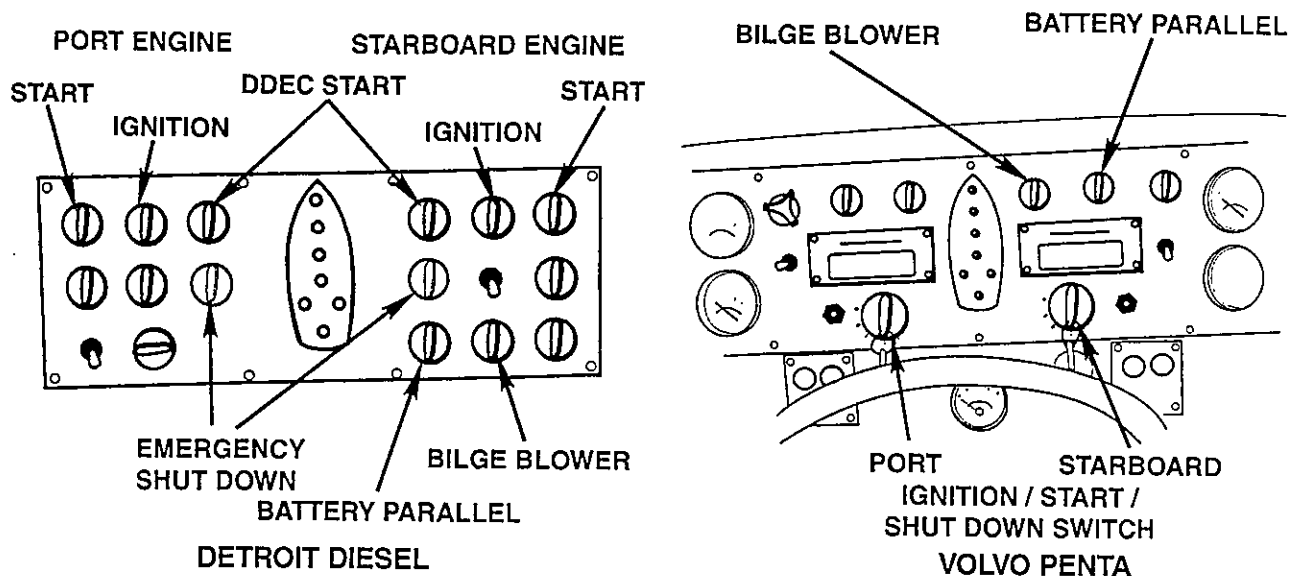

Figure 3-14 Bridge Switch Panel
3. See Figure 3-14. During engine starting, use the BAT PARALLEL switch if necessary. Set BAT PARALLEL switch to either "PORT" or "STBD" while turning START switch. Release both switches when engine starts.
2. See Figure 3-14. On Detroit Diesel engine, turn the IGNITION AND DDEC switches to off to stop the engines. On Volvo Penta engine, turn the key switch to position "S".
See Figure 3-14. You may want to run the bilge blowers for a few minutes after shut-down to remove heat from the engines and compartment.
9. See Figure 3-14. During engine starting, use the BAT PARALLEL switch if necessary. Operate BAT PARALLEL switch only while turning the START switch. Release both switches when engine starts.